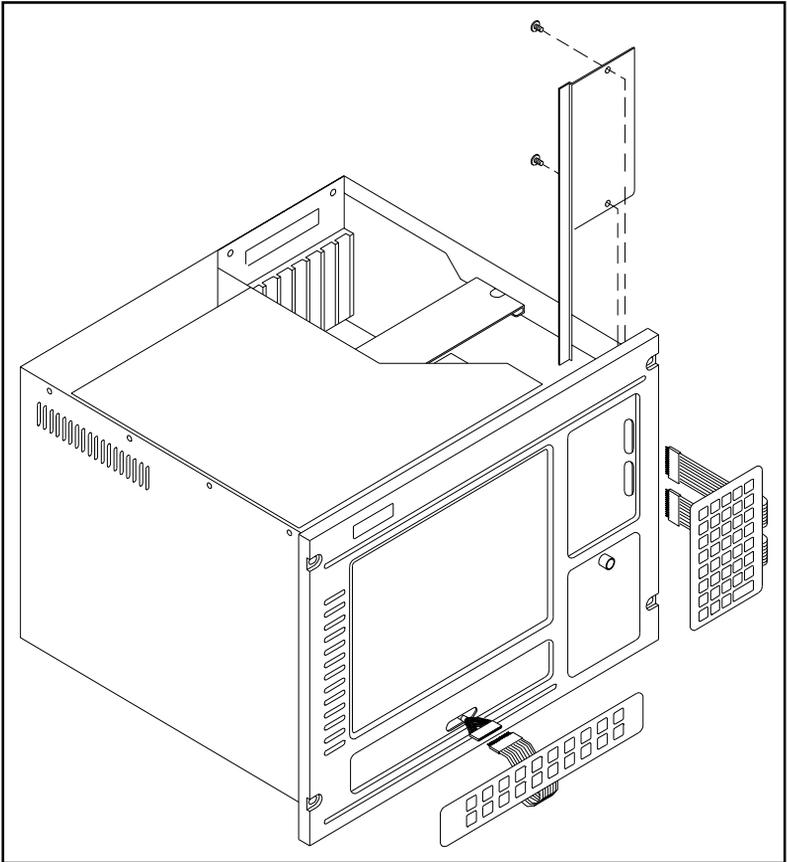

Figure 3-10: Replacing the membrane keypad
4. Remove the membrane keypad connector protective bracket, and carefully pull off the two membrane keypad cables. (See Fig. 3-10.)
2. Carefully pull off the membrane keypad cables connecting the keypad tail. (See Fig. 3-10.)